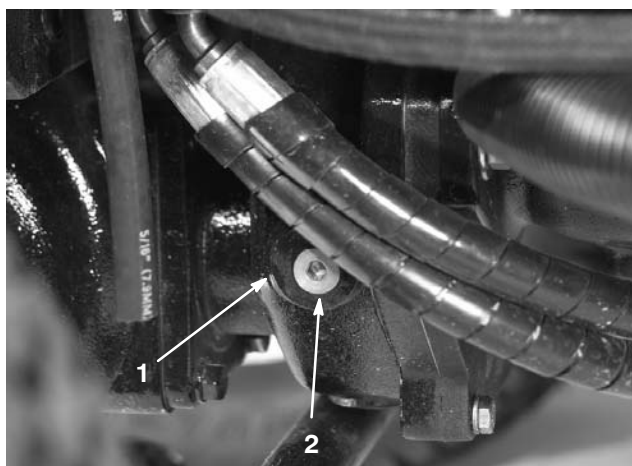

Figure 9
2. Remove the check/fill plug from the left side of the gear box (Fig. 9) and make sure that lubricant is up to the bottom of the hole. If the level is low, add enough lubricant to bring the level up to the bottom of the hole.